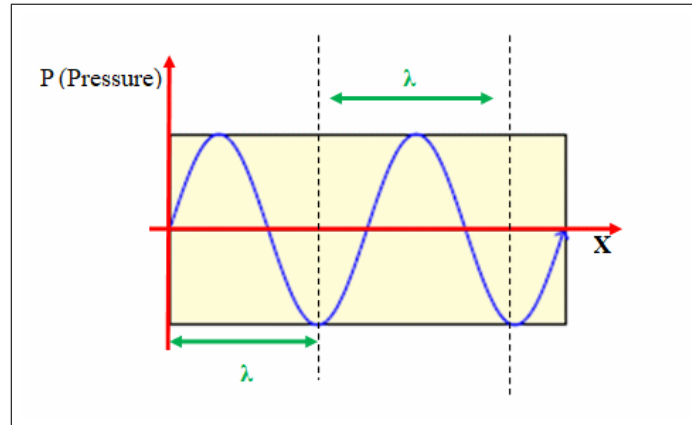

Figure 6.5: Wavelength (λ).
The wavelength (λ) is the smallest distance separating two points that are in the same state of vibration. Alternatively, it is the distance traveled by the wave during one period (T) (Figure 6.5).